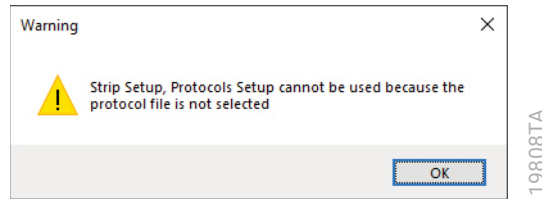

Figure 189. Warning message.
3. If no protocols .xml file is loaded and you select **Close**, a warning will appear (Figure 189). Any assays or protocols created in the absence of an imported protocols .xml file will use the default conditions from instrument software version 6138800-XX.